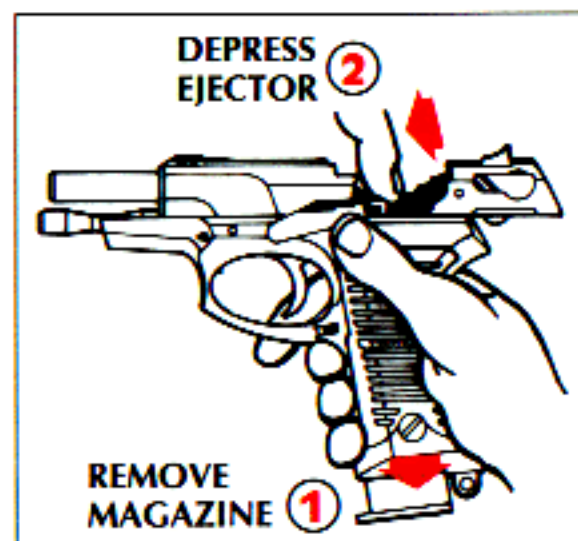

FIGURE 3
- Keep upward pressure on slide stop to prevent forward movement of slide. Open slide is under strong spring tension and could injure fingers if allowed to slam shut. Insert finger through top of slide and push ejector downward and forward (see Figure 3, p. 17) until it locks in its lower position. This will permit forward movement of slide. Further disassembly is impossible unless this is done.